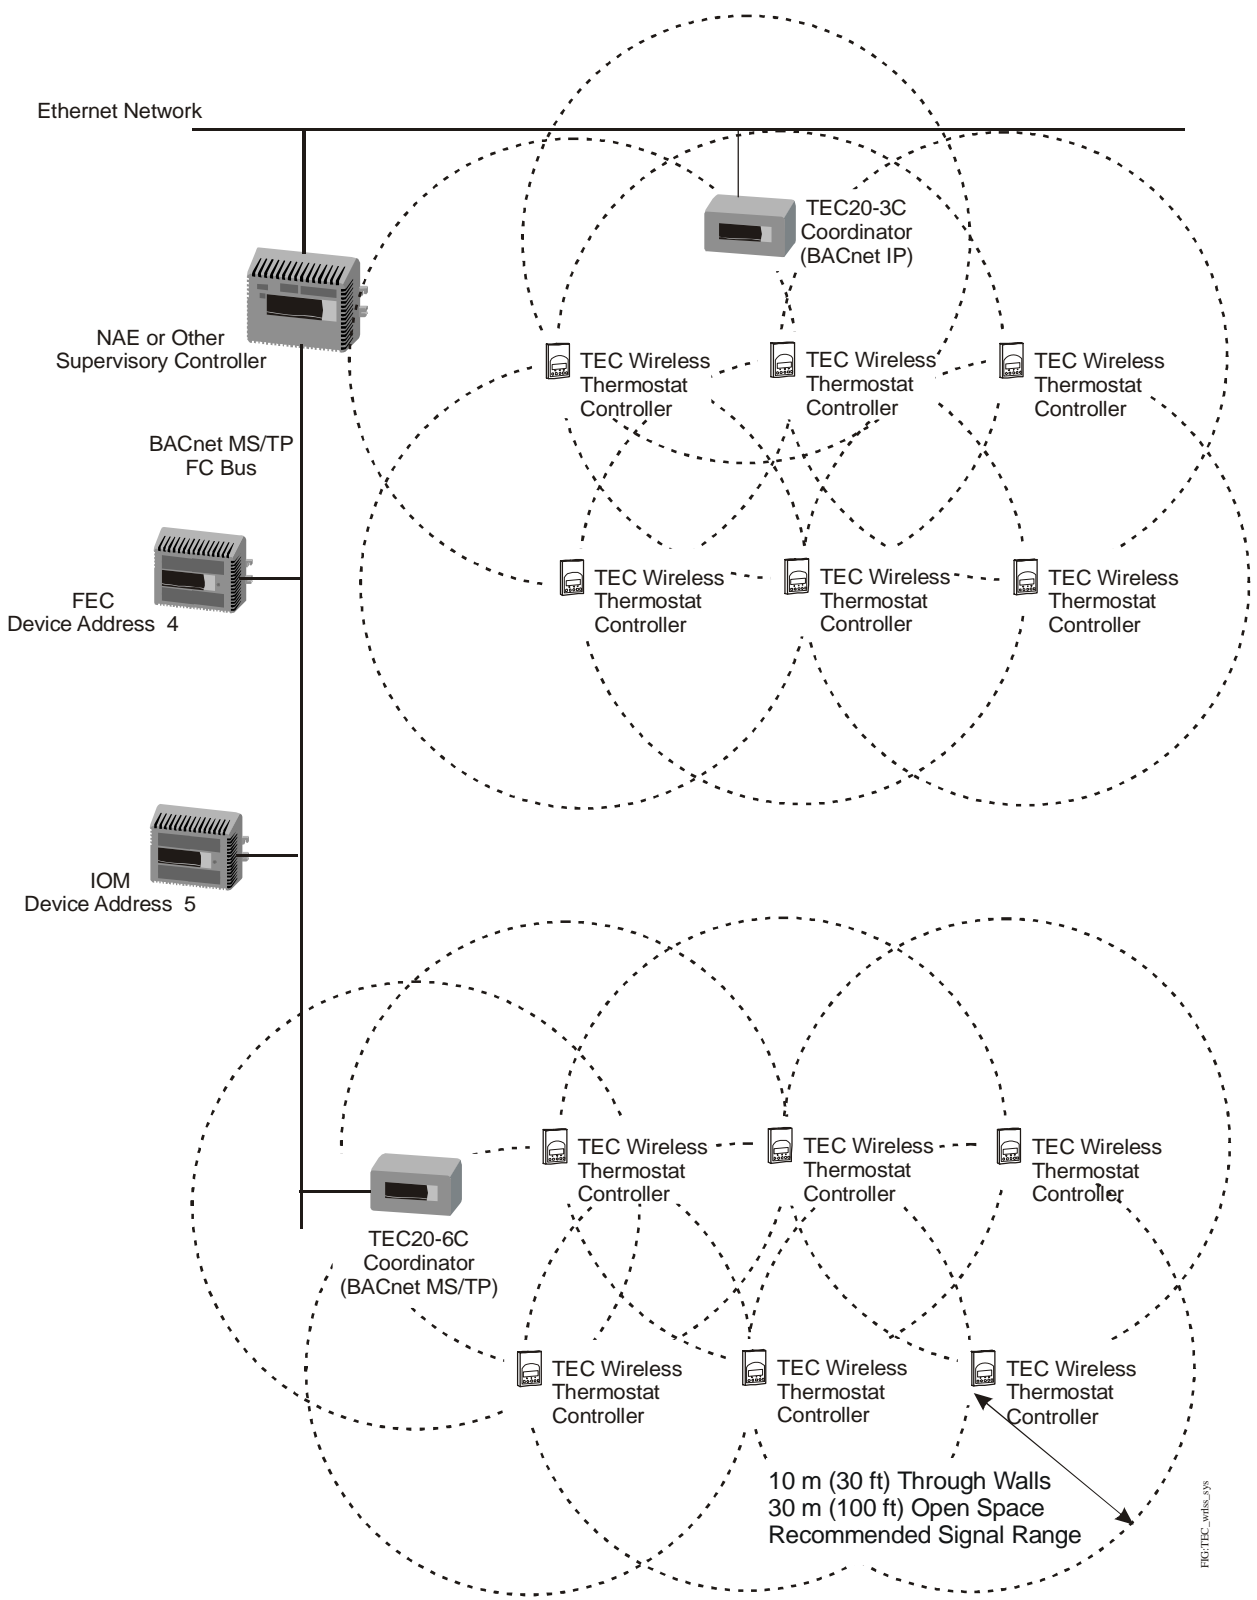

Figure 3: TEC Series Wireless Thermostat Controller System
Together, these components provide wireless monitoring and temperature control of building Heating, Ventilating, and Air Conditioning (HVAC) equipment. Figure 3 illustrates a simple TEC Wireless Thermostat Controller System using a BACnet MS/TP or BACnet Internet Protocol (IP) Version of the TEC20 Coordinator.